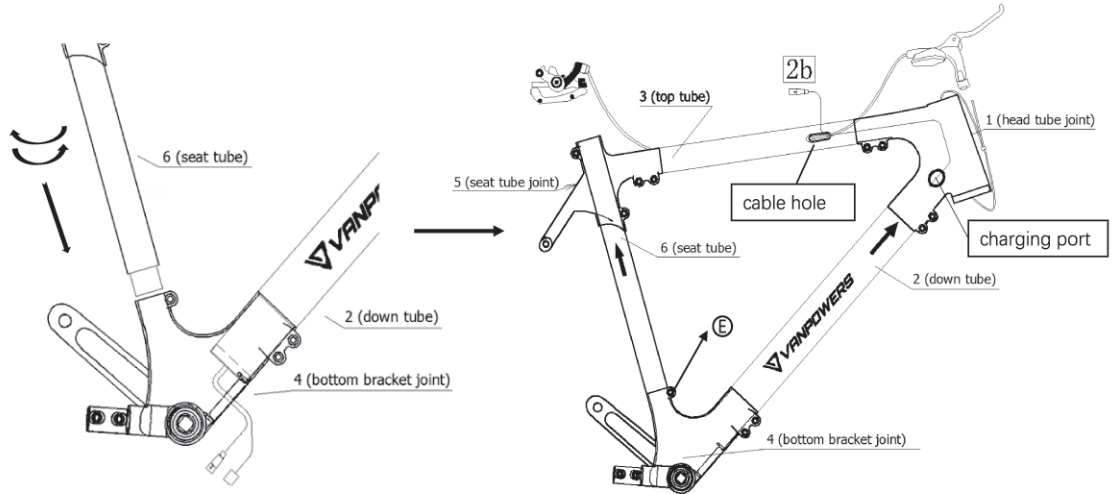

Figure 13.
b. Insert Part 6 into Part 4 until there is no gap between them, as shown in Figure 13. Do not lock screw © yet.